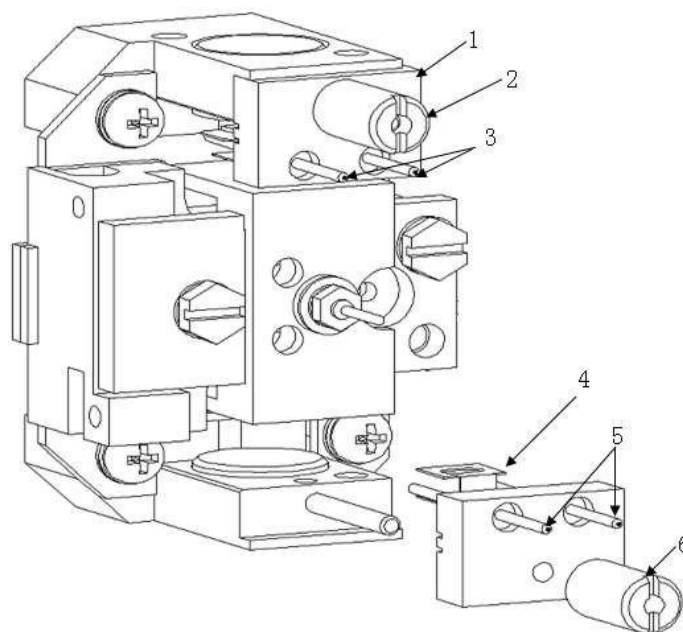

Figure 2-10 Ion source assembly
- (4) Loosen fixing nuts of filament with a straight screwdriver and pull out the filament (see Figure 2-10).